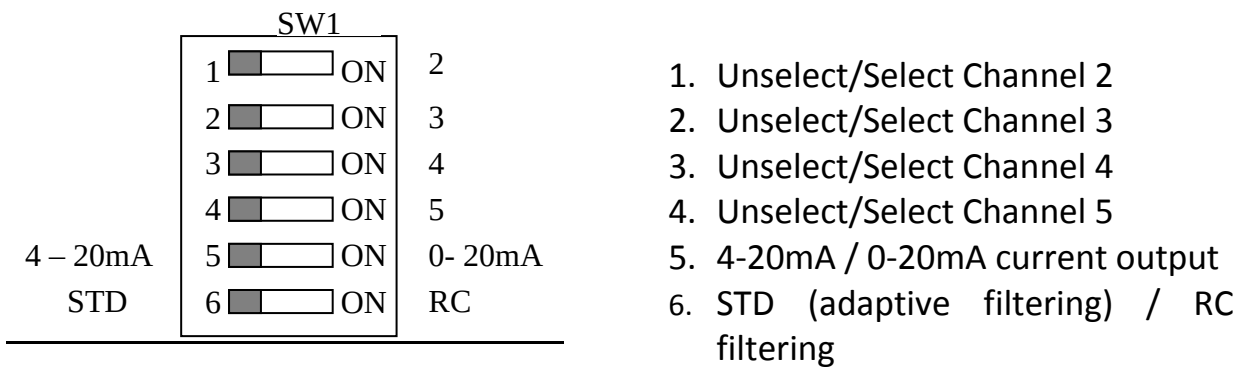

Figure 4 Bit switch Settings (item 4 on Figure 3)
The Gascard NG has a number of bit switches which enable the user to control various aspects of the sensor’s behaviour. Bit switch 6 (see item 4 on Figure 3 and Figure 4) is used to change the output filtering between the standard adaptive type filter and a simple RC Filter. The value of the RC filter is factory set to 8 seconds by default but this may be altered by the user through the RS232 port (see RS232 port user manual).
The Gascard NG provides a standard optimised response time (T_{90}) of 10 seconds with the bit-switch 6 (see Figure 4) on position "STD". Alternatively an RC type response can be selected by setting bit-switch 6 to position "RC". The time constant of the RC filter is programmed using an internal variable and may be set and viewed using the RS232 port and terminal software (see Procedures for RS232 communication with the Gascard NG). Smaller time constants produce more rapid response but reduced short term stability (i.e. a noisier output).